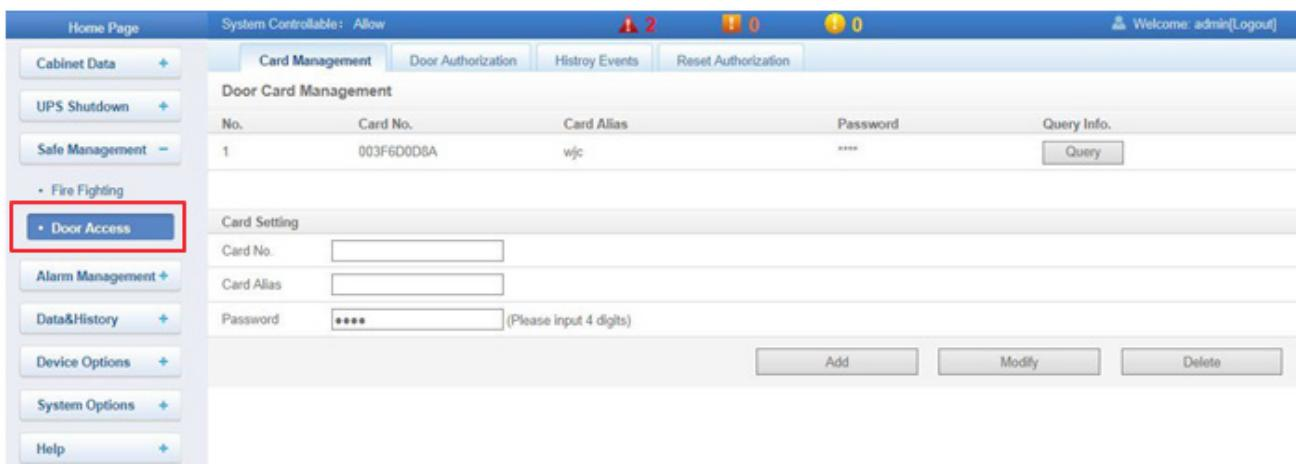

Figure 4-63 Door Access Control (Card Management menu)
- » Click the Door Access function under the Safe Management menu. This leads to access to the access control card management screen as shown in Figure 4-63.